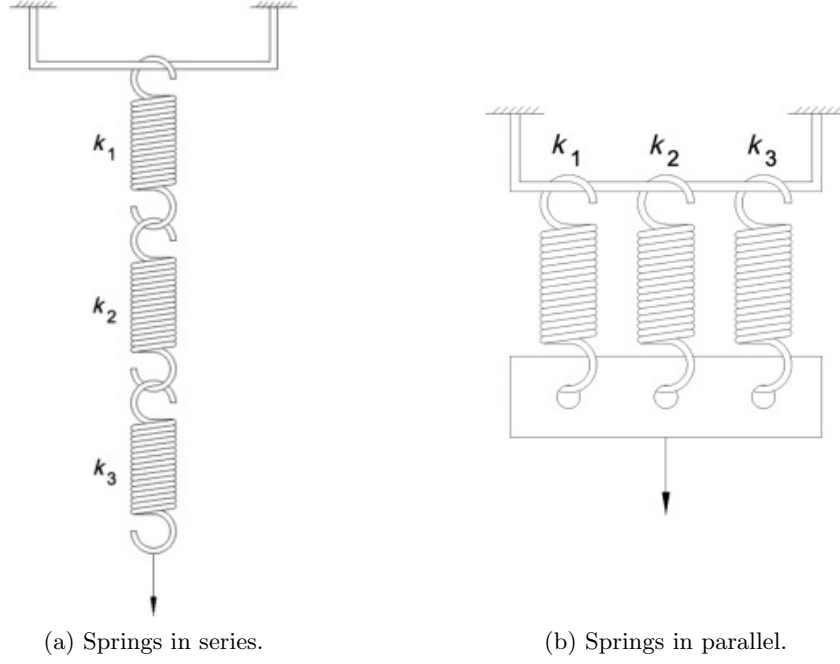

Figure 2: Spring arrangements. Symbols relate to Equations (1) and (2). Reproduced from Childs (2021).
Arrangements and stiffness equations are shown in Figure 2 and Equations (1) and (2). Nomenclature is listed below.